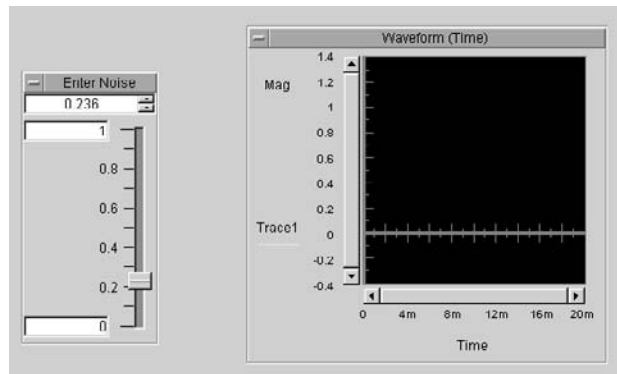

Figure 17.1. An Independent Panel
- Independent Panel – A Panel on a UserObject. This method is used when you want to prepare a UserObject for other applications or to simplify segments of your program for other applications without building a Main Panel. See Figure 17.1.